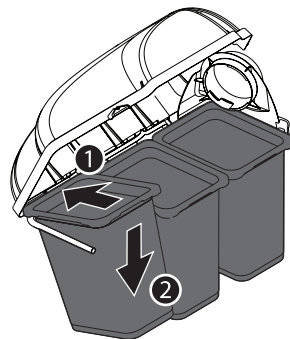

Figure 18
9. Install all three bag assemblies (664-05681) onto the hanger assembly by inserting the front edge in first (1), and then setting the back edge down until it fits into the assembly (2), as shown in Figure 18.